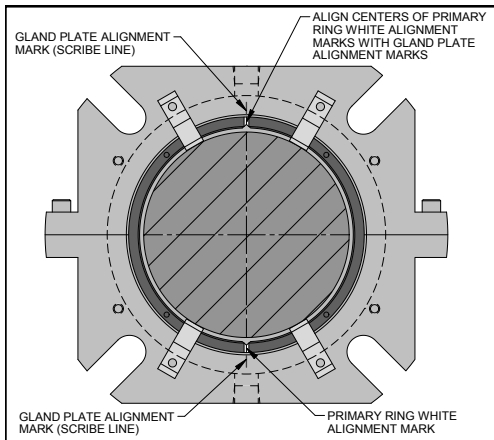

Figure 18
4. Locate the white alignment marks at the primary ring split joints so that they will line up with the gland plate assembly alignment marks when the first half of the gland plate assembly is installed. The gland plate assembly alignment marks are scribe lines located 90° from the gland plate assembly split surfaces. Figure 18.
6. Align the nearest primary ring white alignment mark with gland plate half alignment mark. The gland plate alignment marks are scribe lines located 90° from the gland plate split surfaces. Figure 18.
9. Ensure the centers of the primary ring white alignment marks are aligned with the gland plate alignment marks (Figure 18). Adjust the primary ring alignment by slightly rotating the primary ring within the gland plate assembly if necessary.